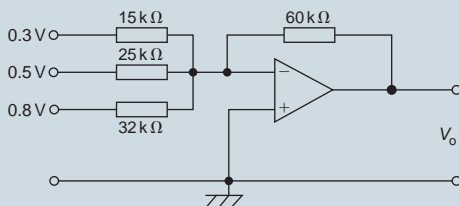

Figure 21.20
3. For the summing op amp shown in Fig. 21.20, determine the output voltage, V_o